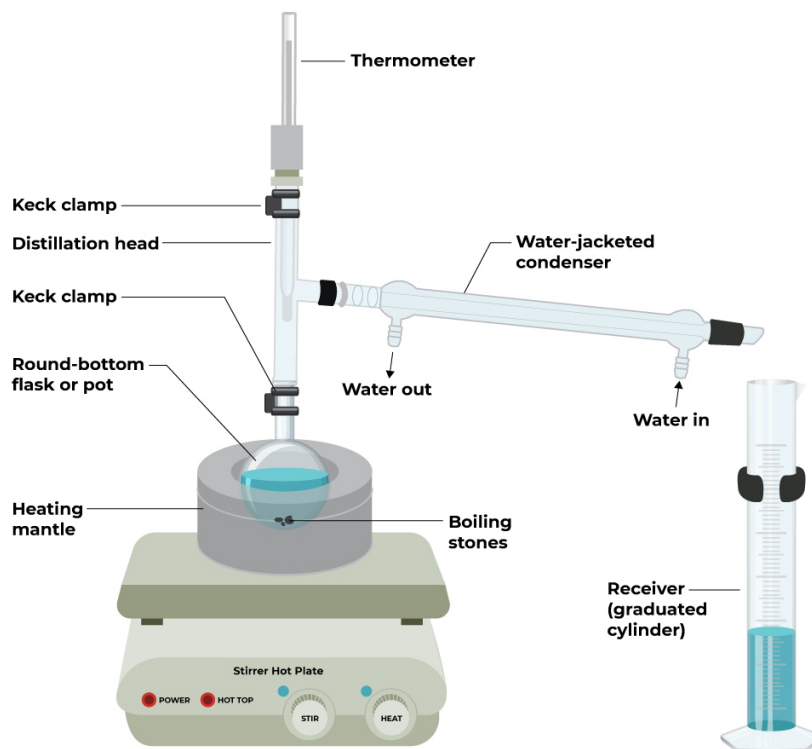

Figure 2A.1: Semi-micro scale simple distillation setup
1. Assemble the apparatus for simple distillation as shown in Figure 2A.1. The cap on the distillation head should have a rubber septum with a large hole. The thermometer should be placed through this hole so there is a seal. The top of the thermometer bulb should be directly below the arm of the distillation head.